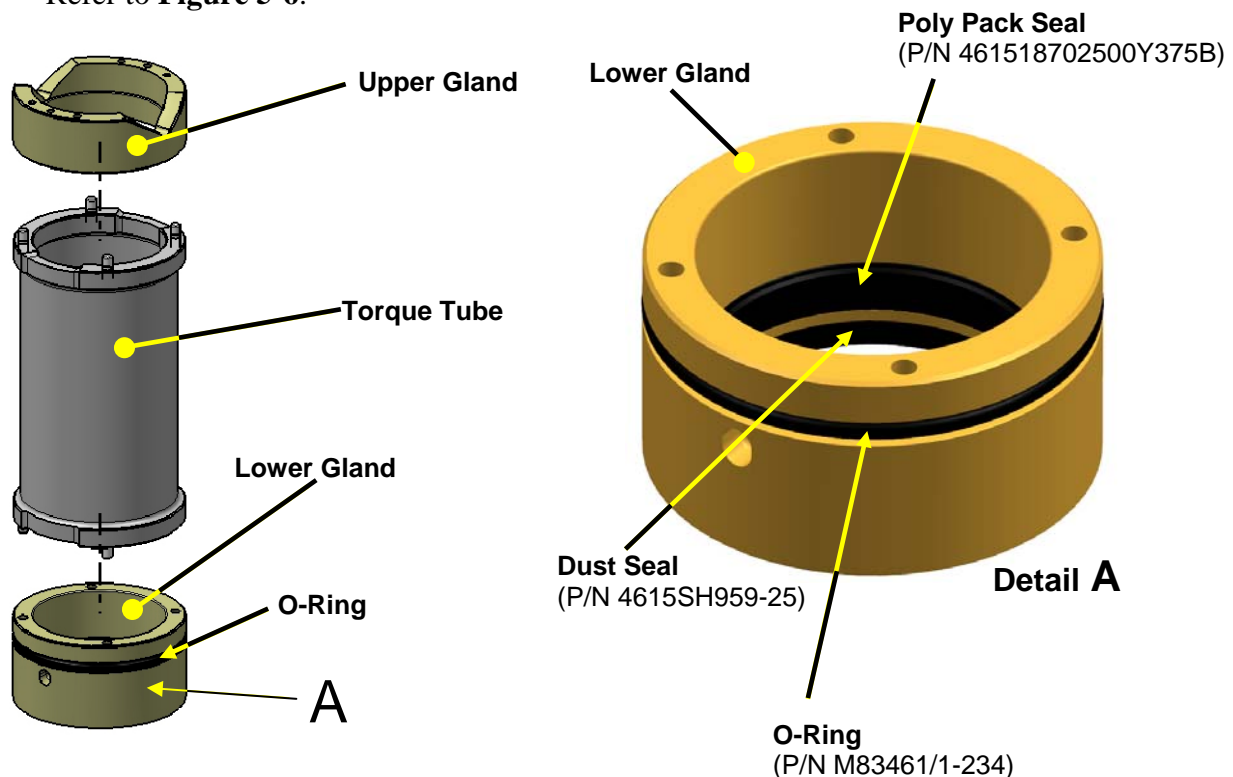

Figure 5-6: Torque Tube Assembly
1. Lubricate with Parker "O" Lube or MIL-PRF-5606 hydraulic fluid and install a new poly pack seal (P/N 461518702500Y375B) onto the lower gland. Be sure to install the poly pack with the o-ring open side towards the pressure chamber. Refer to **Figure 5-6**.
2. Lubricate with Parker "O" Lube or MIL-PRF-5606 hydraulic fluid and install a new o-ring (P/N M83461/1-234) and dust seal (P/N 4615SH959-25) on the lower gland. Refer to **Figure 5-6**.